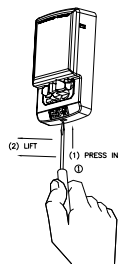

Figure 5: Cover Removal
8. To remove the appliance, insert a small flat-bladed screwdriver into the bottom opening 1/2" as shown in Figure 5. Then pry off beauty cover with the screwdriver.